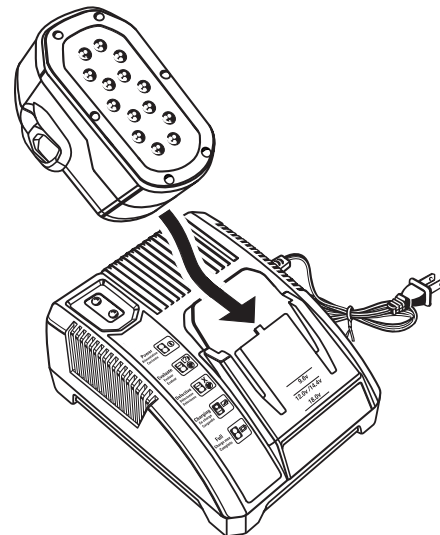

Fig. 5
- Attach the battery pack to the charger by aligning the raised ribs on the battery pack with the grooves in the charger, then slide the battery pack onto the charger. *See Figure 5.*
See Figure 5.